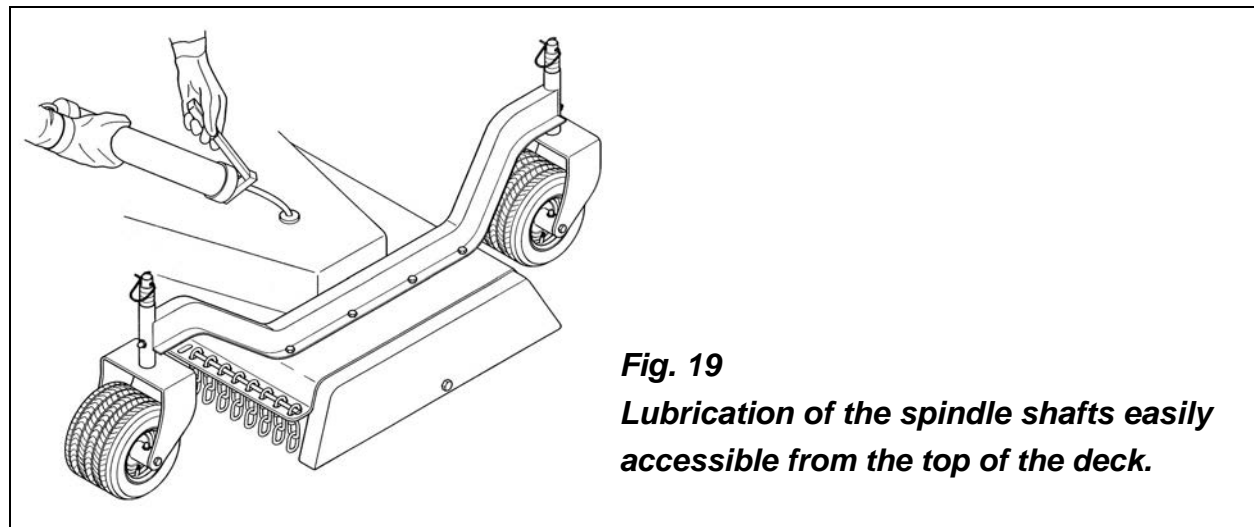
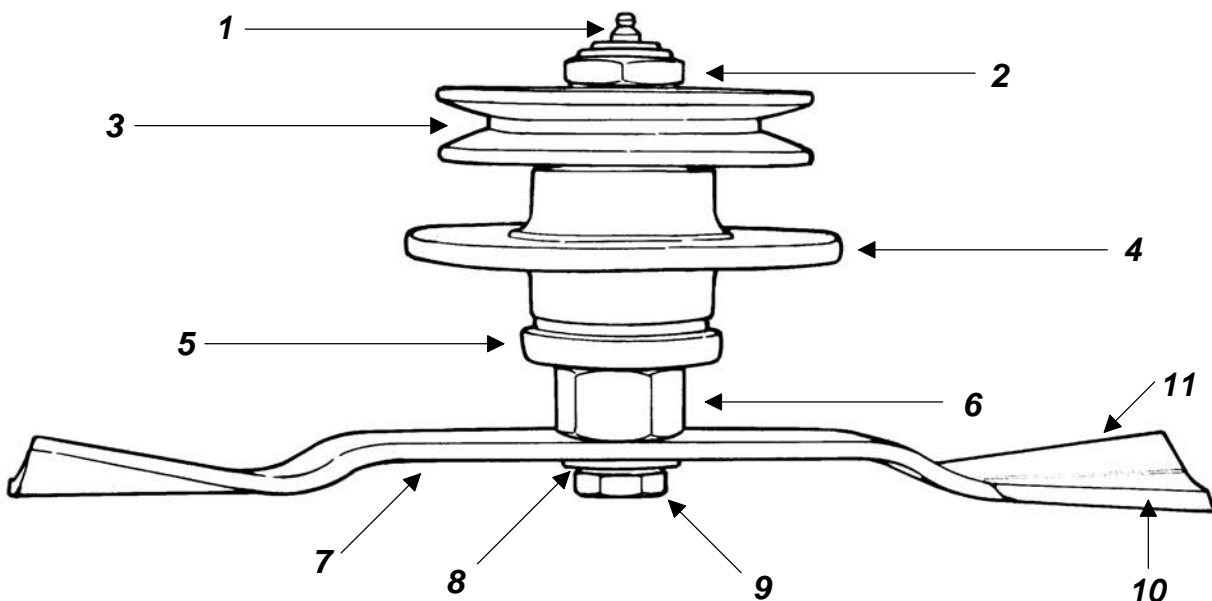

Fig. 19
Fig. 20 - Spindle assembly.
1. Lubricate the nine spindles with multipurpose grease (see fig. 19). Pump grease until you see it seep through the hole on the bottom cover (see #5, fig. 20) of the spindle. The top grease fittings are easily accessible from the top of the deck by simply removing the plastic dust guards.
1. The blade turns in a **counter clockwise** direction when viewed from the bottom of the deck. The cutting edge must be towards the direction of rotation. The lift wing of the blades is closest to the deck and the cutting edge away from it (**see fig. 20**).
2. Install the cup washer (see fig. 20) over the blade bolt and secure the blade in place as described above.